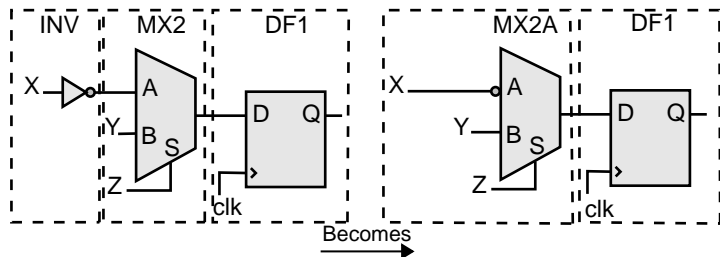

Figure 3-4. Logic Modules Decreased
2. It implements the new combinational macro by combining the basic combinational macro from step 1 with its previous combinational macro in a design. For example, “MX2” and an inverter “INV” are combined into “MX2A.” The total number of logic modules is decreased to one combinational and one sequential module, shown in Figure 3-4.